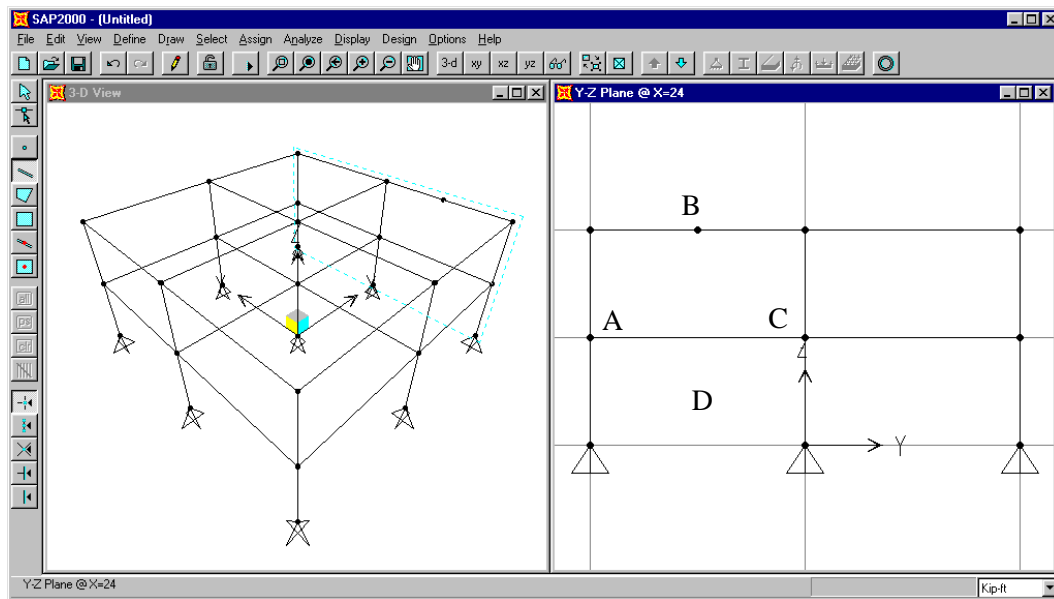
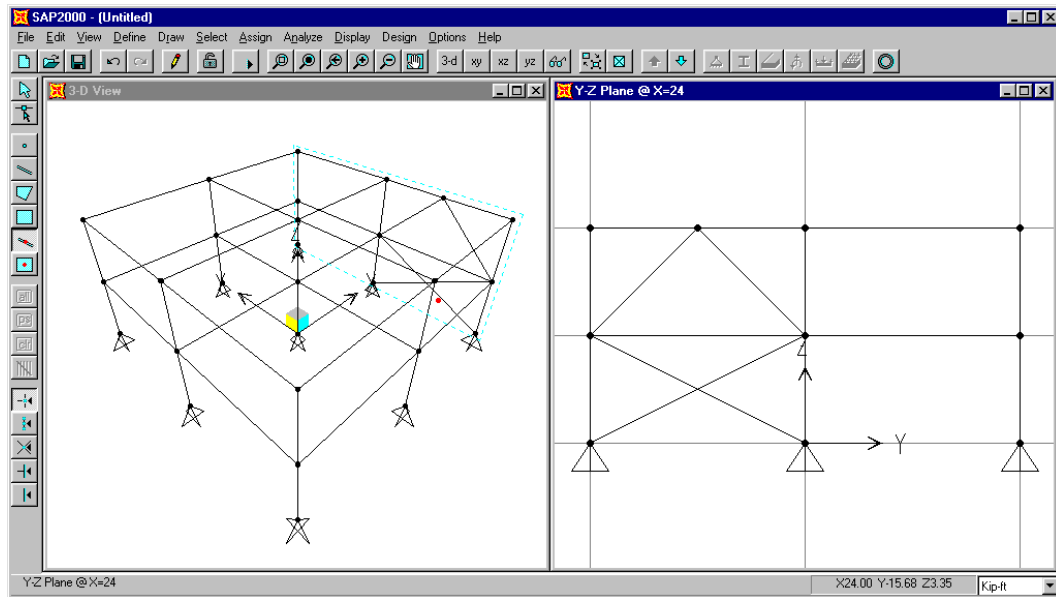

Figure C-3: Joint Labels For Drawing Chevron Brace
Figure C-4: Model After Inputting First Set of Braces
11. Make sure that the **Snap to Joints and Grid Points** button  on the side tool bar is depressed. Place the mouse pointer on the joint labeled “A” in Figure C-3 and click on the left mouse button. Note that when the mouse pointer is near the joint, it snaps to the joint, and a text box that says “Grid Intersection” appears. This is the effect of the **Snap to Joints and Grid Points** feature.
12. Place the mouse pointer near the joint labeled “B” in Figure C-3 and note that in this case the Snap To option text box just says “Point” because the joint does not occur at a grid intersection. Click on the left mouse button to draw the chevron brace element.
Note: If you wanted to, at this point you could just click on point C in Figure C-3 to draw the second brace element. If we were to do that, the start point for the brace would be at the top (point B) and the bottom point would be at the bottom (point C). Though not necessarily a problem, this would be inconsistent with how we input the first brace. In this example we will opt for consistency.
14. Click on the joint labeled "C" and then the joint labeled "B" in Figure C-3, and then press the Enter key on the keyboard to draw the second chevron brace member.
15. Click the **Quick Draw Frame Element** button  on the side toolbar. Then click in the area labeled “D” in Figure C-3 to enter the X-braces. The model now appears as shown in Figure C-4.